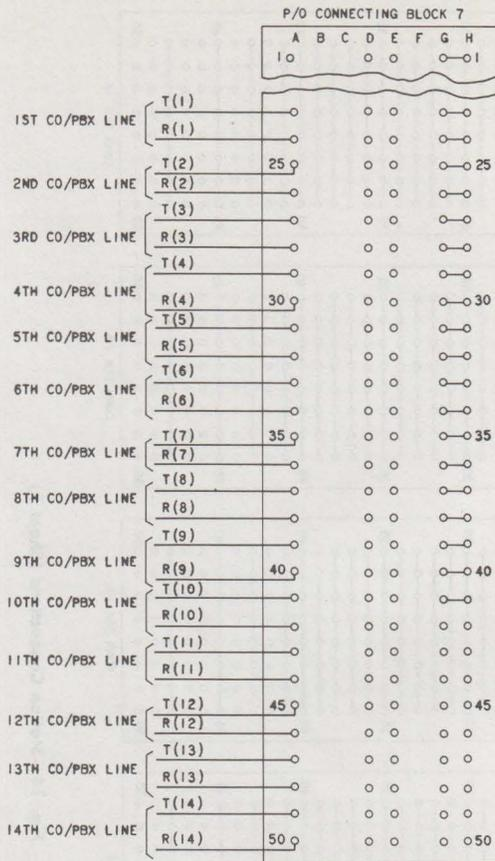

Fig. 13—Connections for Incoming CO/PBX Lines
- (3) Terminate incoming CO/PBX lines. See Fig. 13.